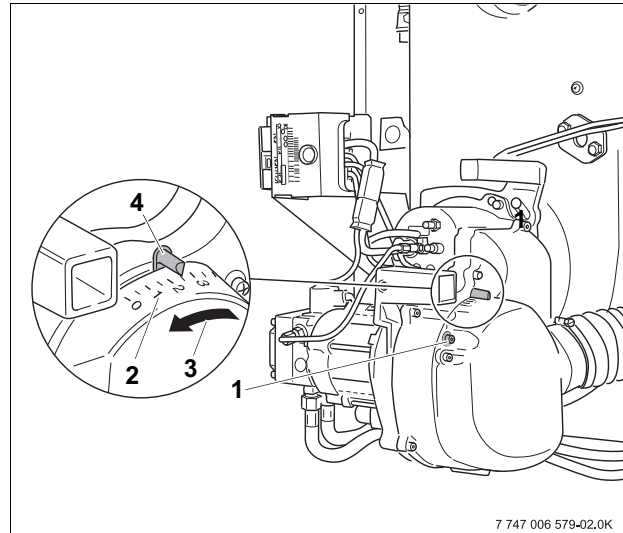

Fig. 14 Adjusting the air intake pipe
- Loosen the screw on the blower housing (Fig. 14, **Item 1**).
Lower numbers on the scale equal a higher air pressure as shown by the arrow in Fig. 14.